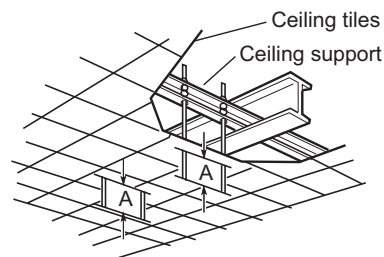

Fig. 2-70
- b) Use existing ceiling supports or construct a suitable support (Fig. 2-70).